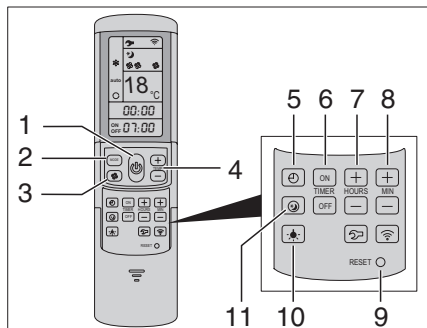

Fig. 111 Remote control
The air conditioning unit is located on the roof of the vehicle. The remote control (Fig. 111) for the air conditioning unit is located in the kitchen area.
The air conditioning unit is ready to operate. The blue LED (Fig. 111,1) lights up.
- ▶ To switch on press the button (Fig. 111,1) on the remote control. The blue LED (Fig. 111,1) flashes.
- ▶ Set the desired operating mode using the MODE button (Fig. 111,2).
- ▶ If necessary, set the desired fan level by using the button (Fig. 111,3) and the room temperature by using the buttons (Fig. 111,4).
- ▶ When the temperature set on the remote control is reached, the blue LED (Fig. 111,1) goes out, the compressor switches off and the circulation fan continues to run.
- ▶ To switch off press the button (Fig. 111,1) on the remote control again.
- ▶ To carry out programming, switch on the air conditioning unit by using the button (Fig. 111,1) on the remote control.
- ▶ Set the desired operating mode by using the button (Fig. 111,2) and the room temperature by using the buttons (Fig. 111,4).
- ▶ Use the buttons (Fig. 111,6) to select the desired function:
- ▶ Use the buttons (Fig. 111,7 and 8) to select the desired switching time (15 minutes to 24 hours).
- ▶ Confirm the setting with the buttons "ON" or "OFF" (Fig. 111,6).